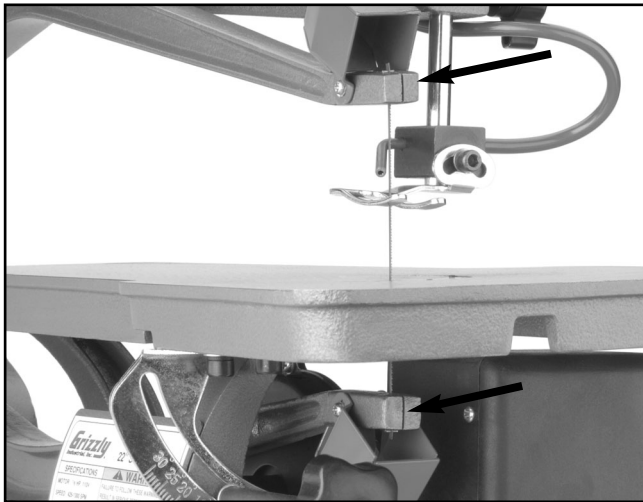

Figure 8. Blade attached to both holders.
2. Feed the blade through the table and hook it into the lower blade holder as shown in **Figure 8**. The blade teeth should face forward and down.